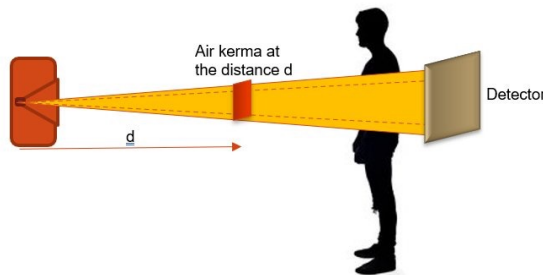

FIGURE 24
- / The air kerma (K_a) of an X-ray beam (Fig. 24) depends on the current time product (Q), the voltage squared (U^2), the inversed square distance to the source (d^{-2}) and the X-ray tube constant C as follows: